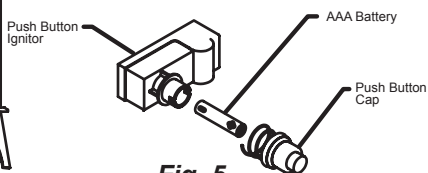

Fig. 5
- Step 2 – Unscrew the cap on the Push Button Ignitor with your fingers by turning it counterclockwise. (Fig. 5)